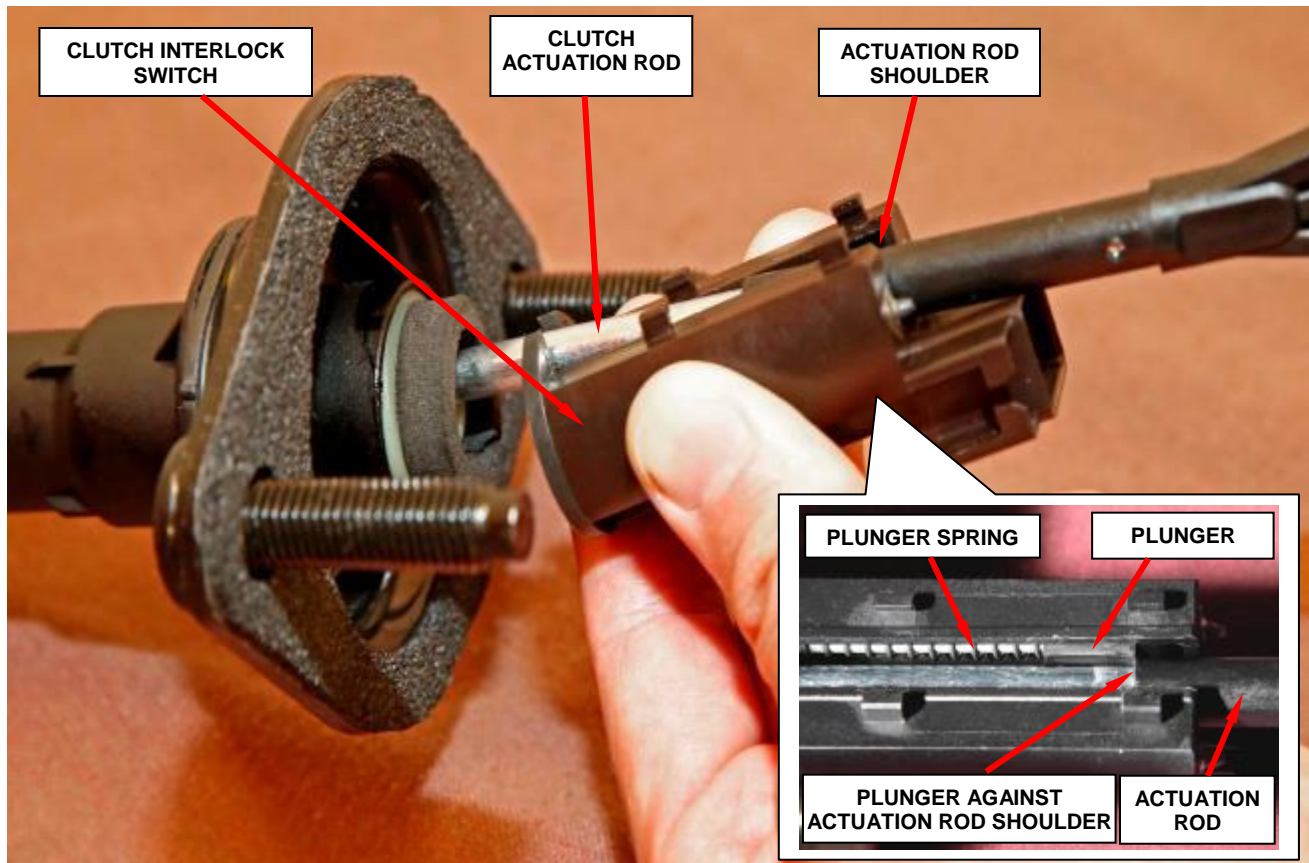

Figure 9 – Clutch Interlock Switch Installation
- c. Place the new switch against the clutch rod at an angle (Figure 9).